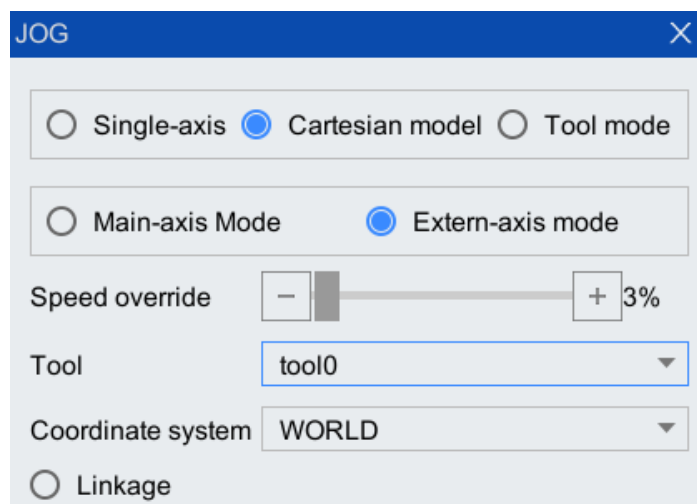

Figure 5-8 Axis control mode setting interface
Step 2. In the axis control mode setting interface that pops up, select [Tool] as "tool0" as a reference, as shown in Figure 5-8.